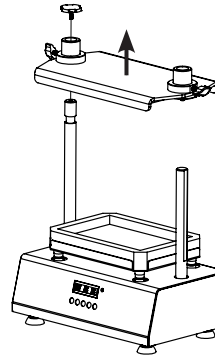

Fig. 21.2
- Pull up the cover plate as shown in fig. 21.2